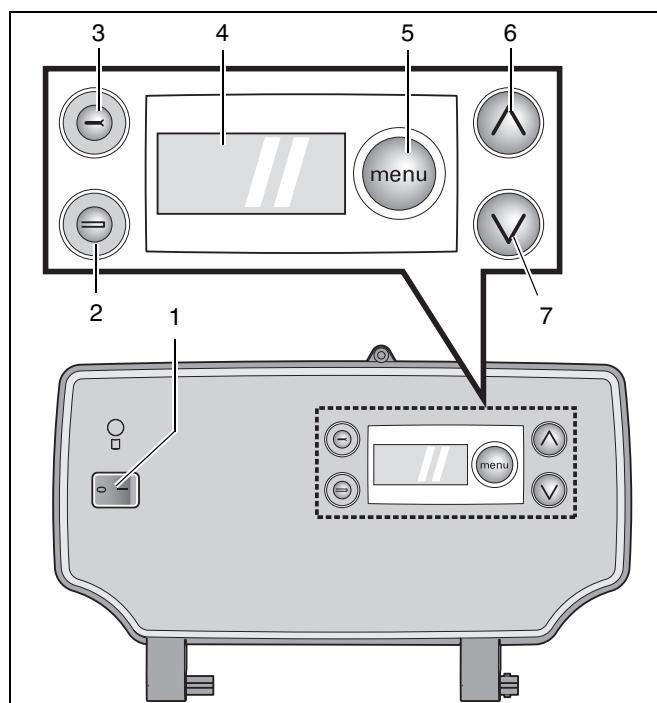

fig. 1 DBA
1. Mains switch (see fig. 1)
2. Reset button (see fig. 1)
3. Service Button (see fig. 1)
- item 1: mains switch
- item 2: "reset" button
- item 3: "service" button
- item 4: display
- item 5: "menu" button
- item 6: adjusting arrow up
- item 7: adjusting arrow down
4. Display (see fig. 1)
5. Menu button (see fig. 1)
6. and 7. Up (▲) and Down (▼) keys (see fig. 1)